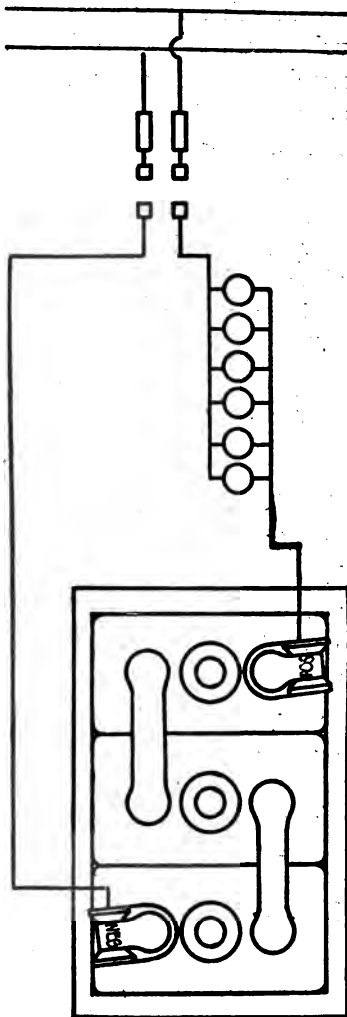

Fig. 409. Diagram of Connections for Charging Six-Volt Storage Battery from Lighting Circuit
**A.** By inserting a double-pole single-throw switch and 10- or 15-ampere fuses on taps from the mains and ordinary incandescent lamps in series with the battery to reduce the voltage, Fig. 409.